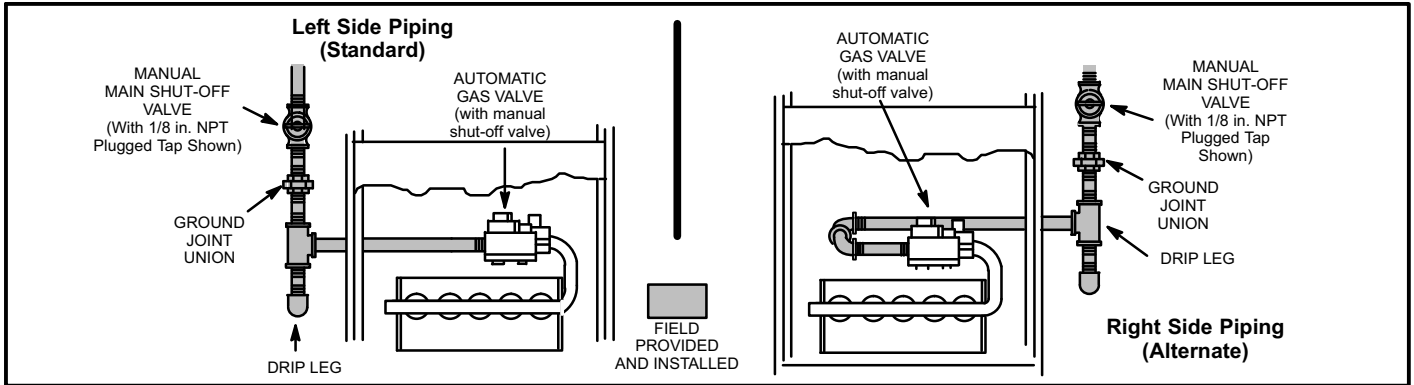

FIGURE 13
*NOTE - Install a 1/8 inch NPT plugged tap in the field piping upstream of the gas supply connection to the unit. The tap must be accessible for test gauge connection. See figure 13.*